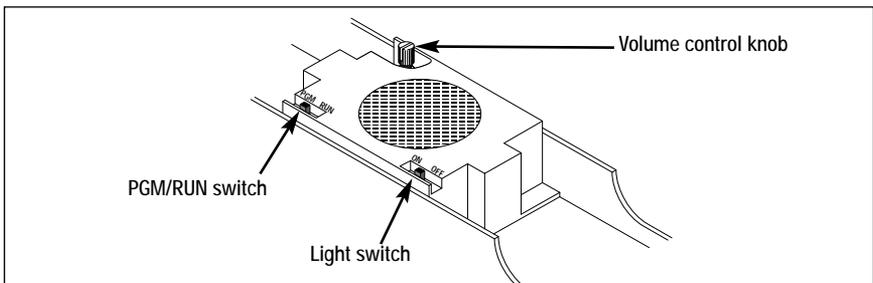

Figure 4. Switch and volume locations
All Lionel command-equipped products come factory-programmed with an ID# of 1. (To change the ID#, see page 12.) Even though your StationSounds Car is not an “engine,” it is still addressed using **ENG** on the CAB-1 Remote Controller. Use the volume control on the bottom of the car (see Figure 4 on page 12) to set the volume to your desired level.
Set the StationSounds Car PGM/RUN switch to PGM. Refer to Figure 4 for the location of that switch. Plug in your Command Base, then place the StationSounds Car on the track. Set your PowerMasters to CMD or set your traditional power supplies to FULL (no more than 20 volts). Using your CAB-1 Remote Controller, press **ENG**, the StationSounds Car ID# (that you select), then press the **SET** button located under your CAB-1 Remote Controller's removable panel. Set the control switch to RUN. Your StationSounds Car is ready for operations with its all-new ID#. Example 3 illustrates this process.
STEP 1: Move the PGM/RUN switch on the bottom of the StationSounds Car from RUN to PGM. Refer to Figure 4 on page 12 for the switch location.